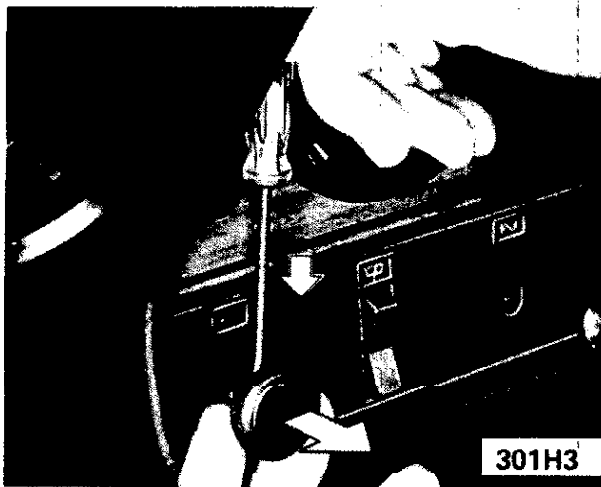

Figure 1H-3 . Removing Headlight Switch Knob,
1. Remove headlight switch button by depressing retaining clip on shaft and pulling back on switch knob. See Figure 1H-3.
2. Remove two (2) plugs on cluster panel. See Figure 1H-4.
3. Remove two (2) sheet metal screws behind plugs on cluster. See Figure 1H-5.
6. Remove two screws for lower housing attachment. See Figure 1H-6.